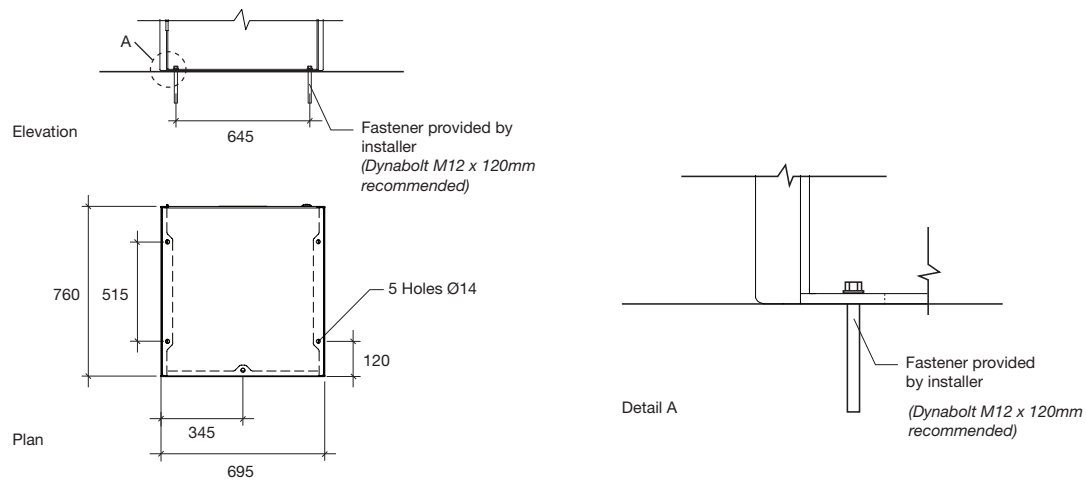

Fig. 1
1. Make sure you have the magnetic key required. **Fig. 1**